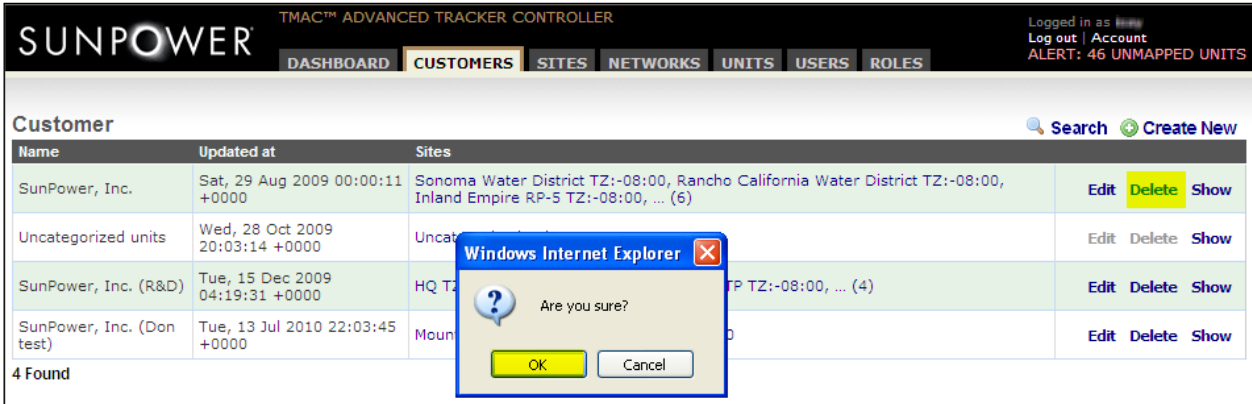

Fig. B64
- c. Click *OK* in the confirmation window (Fig. B64).